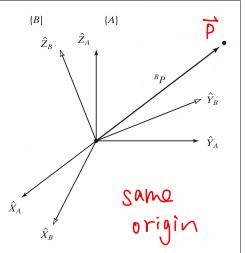

FIGURE 2.5: Rotating the description of a vector.
- ② Figure 2.5: Given  ${}^B P$ , to calculate  ${}^A P$ ,